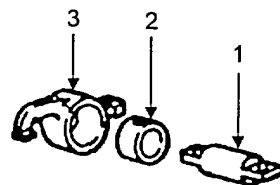

FIGURE 5-21. ROCKER ASSEMBLY
c. Measure rocker shaft (Figure 5-21, Item 1) diameter. If rocker shaft diameter is smaller than 0.7074 inch (17.974 mm), it must be replaced.
d. Measure rocker bore bushing (2) inside diameter. If rocker bushing bore is greater than 0.7084 inch (17.994 mm) replace bushing (2).
e. Measure rocker (3) radius. The radius must be 0.315 inch (8 mm). No flattening or brinelling is permitted on the rocker radius. If there is evidence of flattening, the rocker must be replaced.